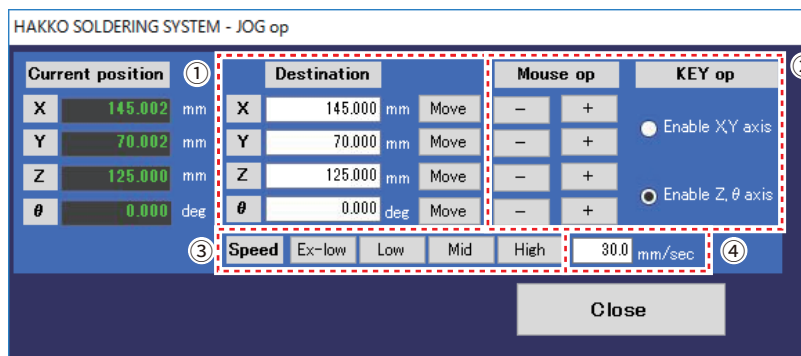

Fig. 7-18
- ① When the coordinate of the soldering point is known, input the coordinate and click Move (See Fig. 7-18).